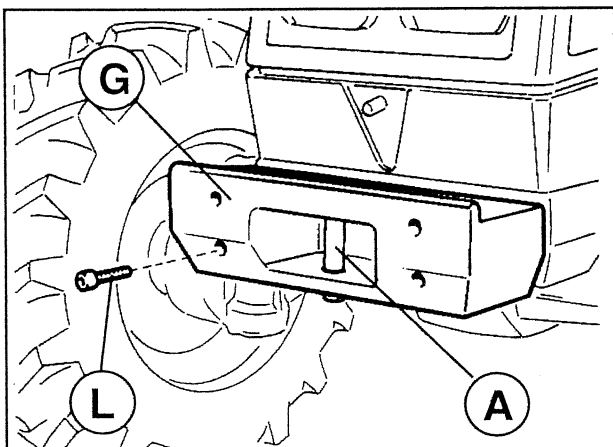

Fig. 26 Front ballast support
- 1) A cast-iron support (G) (Fig. 26) fixed to the front axle by means of 4 screws (L) and carrying the front tow bar (A).